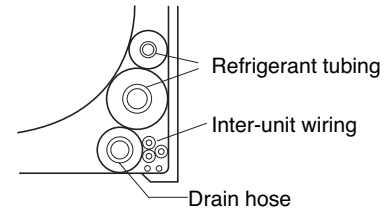

Fig. 3-71
- (5) Assemble the refrigerant tubing, drain hose and inter-unit wiring as shown in Fig. 3-71.